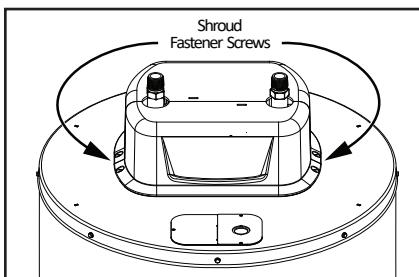

Figure 46 - Shroud fastener screw locations.
- Using a 1/4" nut driver, locate and remove the four (4) screws securing the shroud cover to the top of the heater. Lift the shroud cover up and away from the top of the heater to gain access. See Figure 46.